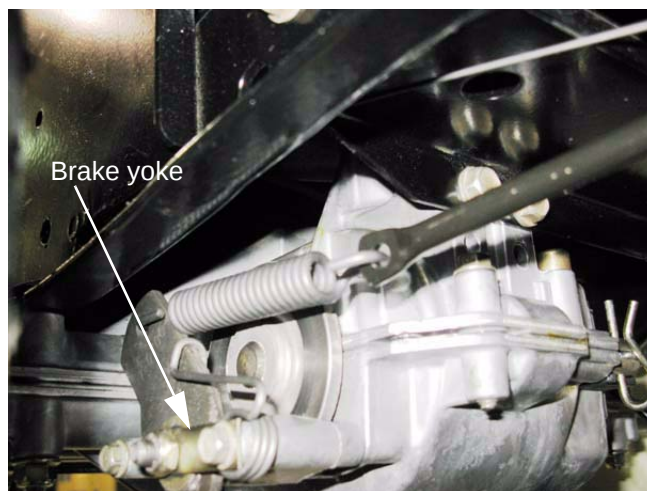

Figure 6.3
- 3b. If the linkage is working properly, but the brakes seem to be dragging, check the brake yoke. The linkage is not adjustable. See Figure 6.3.